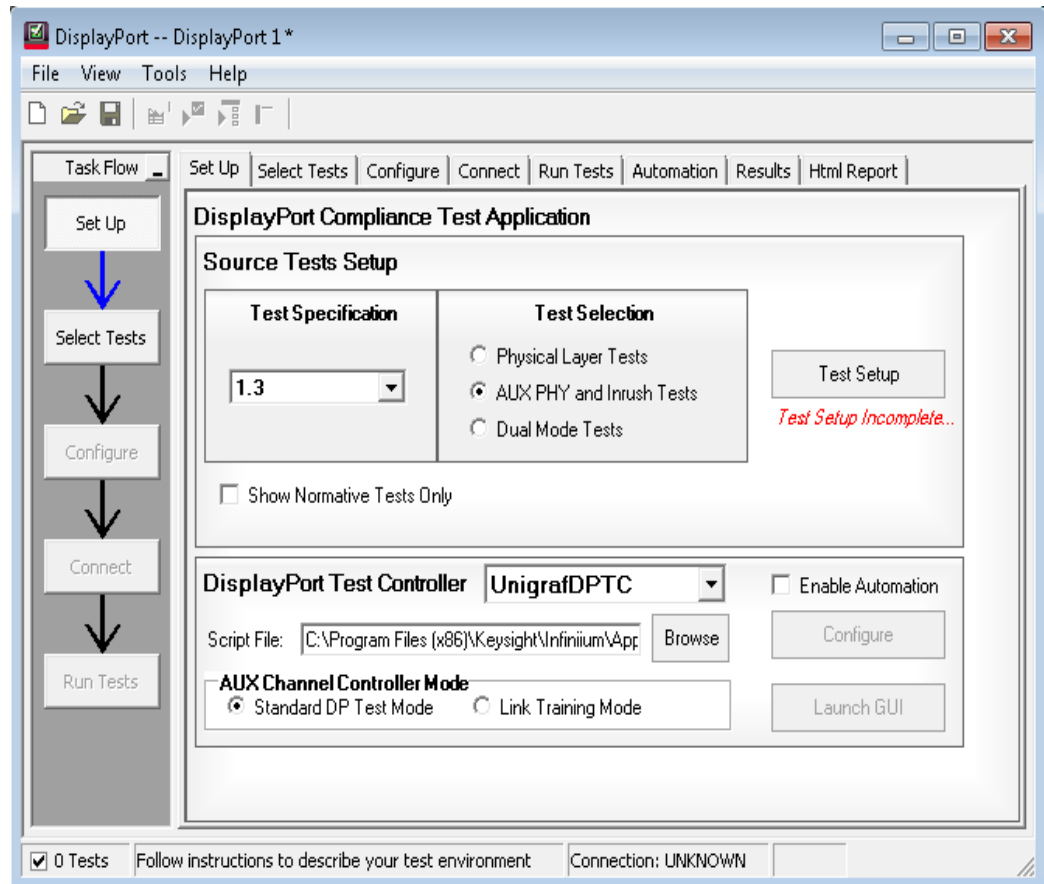

Figure 81 Set Up tab on the DisplayPort Compliance Test App
- 3 On the DisplayPort Compliance Test Application, click the **Set Up** tab (see Figure 81).